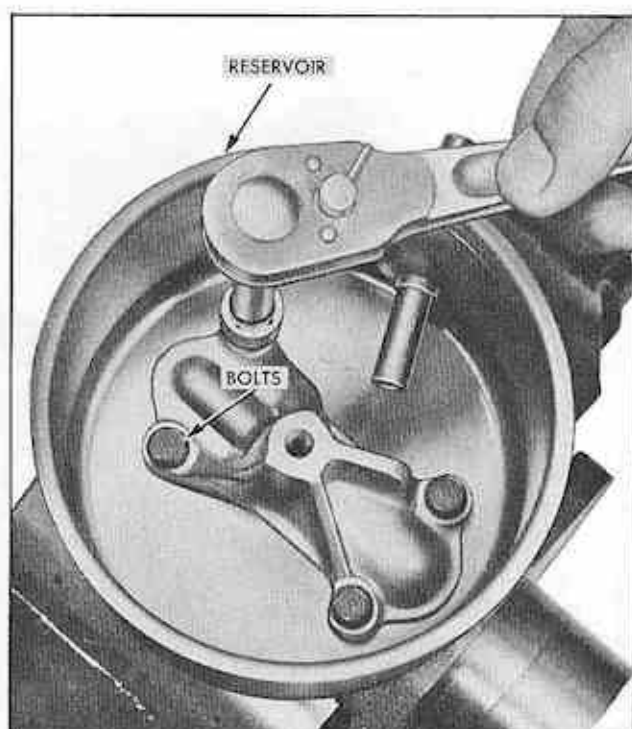

Fig. 94 Removing Pump Reservoir
4. Remove four reservoir-to-pump bolts (Fig. 94).